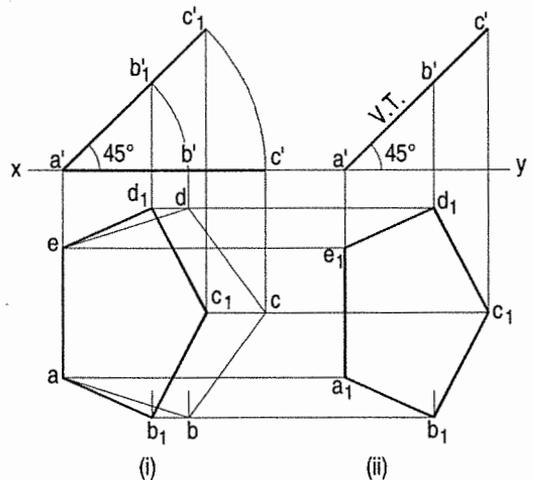

FIG. 12-10
Problem 12-4. (fig. 12-10): A regular pentagon of 25 mm side has one side on the ground. Its plane is inclined at 45° to the H.P. and perpendicular to the V.P. Draw its projections and show its traces.
- (i) Draw the pentagon in the top view with one side perpendicular to xy [fig. 12-10(i)]. Project the front view. It will be the line $a'c'$ contained by xy .
- (iii) Project the new top view $ab_1c_1d_1e$ upwards from this front view and horizontally from the first top view. It will be more convenient if the front view is reproduced in the new position separately and the top view projected from it, as shown in fig. 12-10(ii).